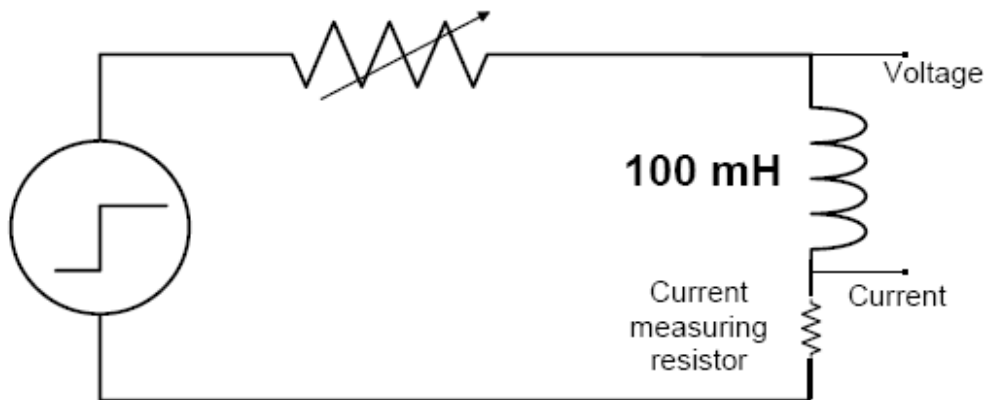

Fig. 2. The experimental R-L circuit.
3. (a) Construct the circuit of Figure 2. Set the resistance box to $510\ \Omega$.
5. Simulate the experiment circuit (Figure 2) in Pspice. For each value of R used above compute the circuit time constant.